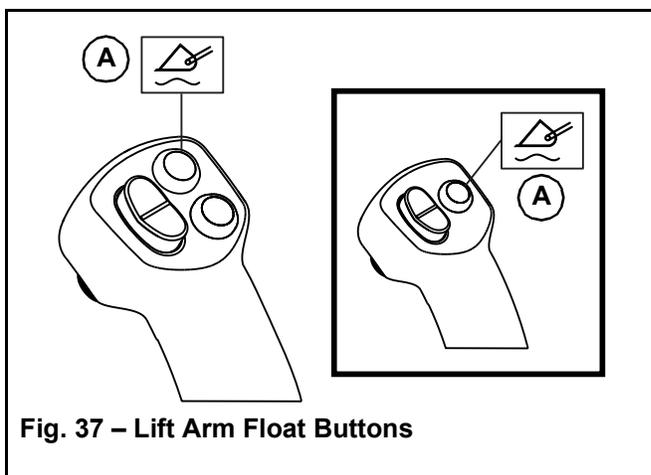

Fig. 37 – Lift Arm Float Buttons
Lift arm float is activated by lowering the attachment to the ground and using button (A, Fig. 37) on the right joystick. Press button (A) to activate float; press and hold button (A) for 5 seconds to engage continuous float activation. Press button (A) and quickly release to deactivate float.